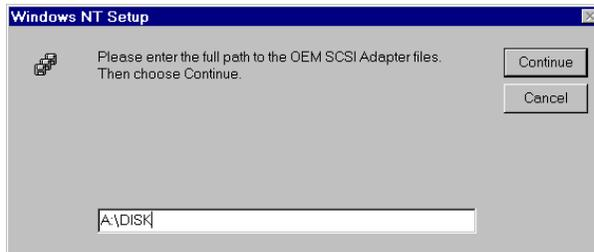

Figure 3-17. Confirm Diskette Accelerated Driver Path
20. Again, be sure the path is A:\DISK as shown in Figure 3-17 and click Continue.